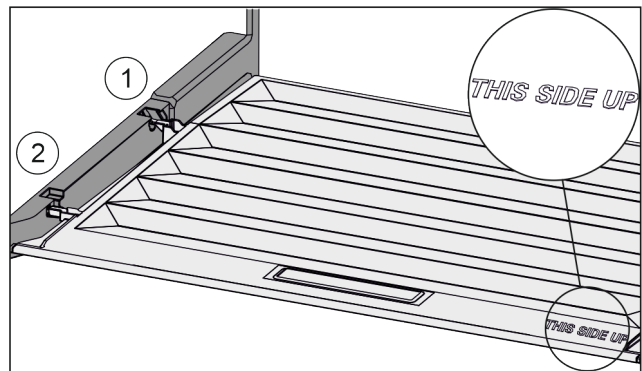

Fig. 120
- ▶ Insert the lip of the cover over the opening of the rear bracket Fig. 120 (1) and click into place Fig. 120 (2).